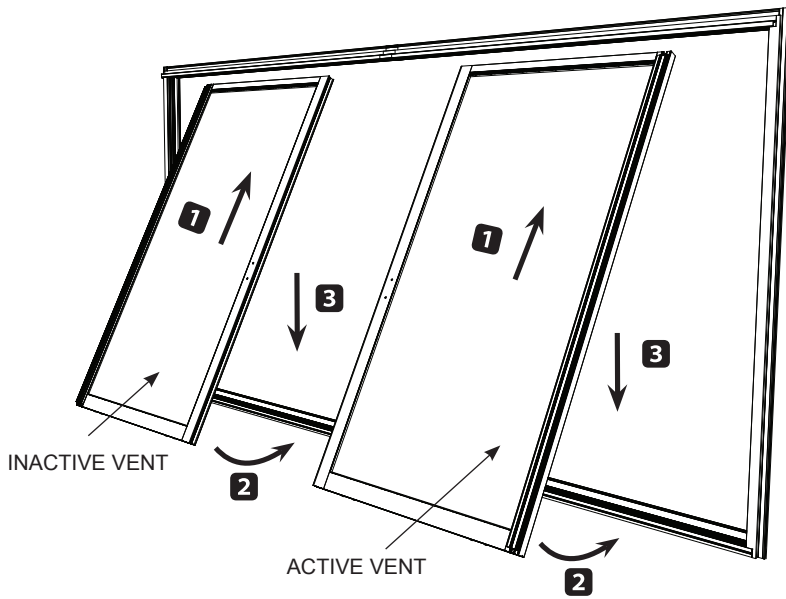

FIG. 40
1. Install both vents from the exterior side. (FIG. 40)